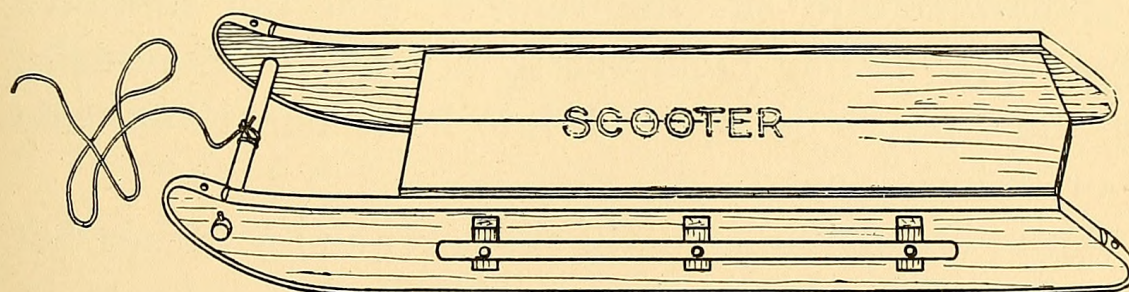
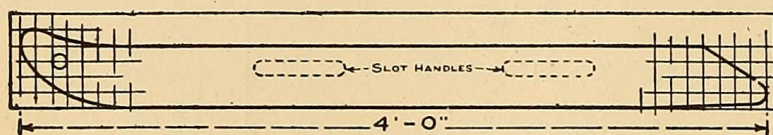

FIG. 368. — A Home-made Coaster.
FIG. 369. — Pattern for Runners.
The **Coaster** shown in Fig. 368 is simple to make, but in cutting out the various pieces and putting them together
**Lay out the Runners** by the pattern shown in Fig. 369. This has been marked off into squares, at the ends, to aid you in laying out the curves. Measure off the total length of the runner upon a 1-inch or  $1\frac{1}{4}$ -inch board,
**Sled Handles**, any one of which you may use. One of the simplest kind of handles consists of slots cut through the runners as shown in Figs. 369 and 371. The slots should be cut as described on page 142 (see Fig. 156). To make the handle shown in Fig. 368, cut two pieces of broom-handle 28 inches long and four wooden blocks 2 inches square; nail two of the blocks to each runner, then bore  $\frac{5}{8}$ -inch holes through the broom-handle pieces and through the blocks and runners, and bolt the handles